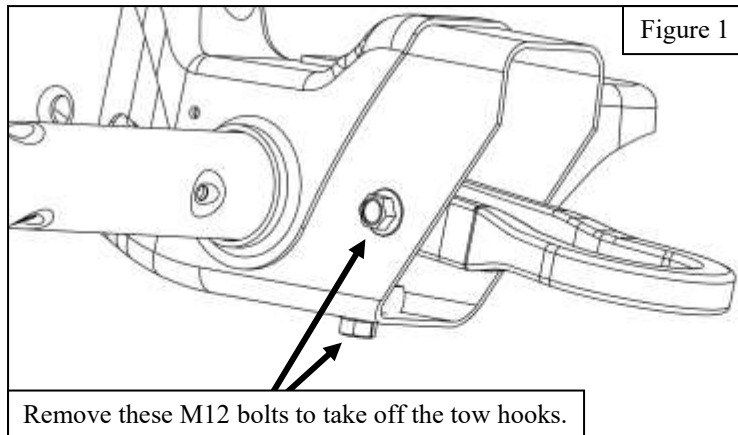

Figure 1
2. Remove the factory tow hooks, if equipped. They can be re-used with this kit if desired. See **Figure 1** for reference.